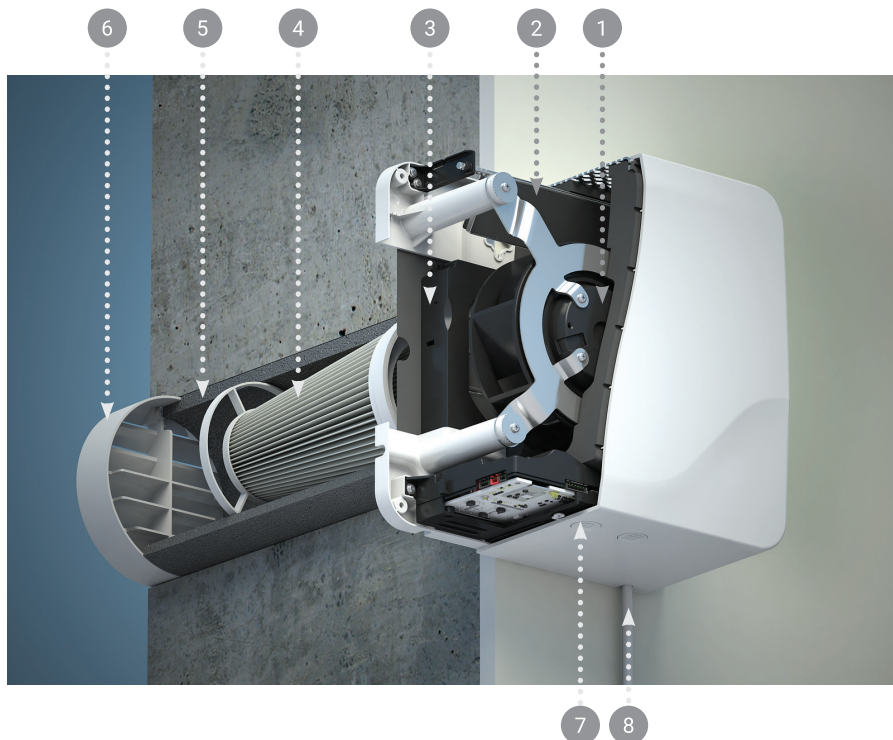

Figure 5.1. System composition:
The device, when installed in accordance with the requirements of Section 6.2 of this User Manual, constitutes a compact ventilation system. The appearance and working parts of the system are shown in Figure 5.1.
The device is to be mounted6 to a wall with a drilled air duct leading to the outside. The air is drawn into the room through the air duct by a fan (Figure 5.1, item 1). The air duct is protected by a heat insulating tube (Figure 5.1, item 5), and the downward slope of the channel (angled towards the street) prevents rainwater from getting into the device. The Tion outflow air grid (Figure 5.1, item 6) is installed on the air duct from the exterior.
A high-efficiency channel filter of E11 class7 according to Russian state standard GOST R EN 1822-1-2010 (Figure 5.1, item 4) is installed in the air duct. The air passing through the filter is cleansed from the finest dust particles as well as allergens, bacteria, viruses and mold spores.
The flap (Figure 5.1, item 2) is located under the air outlet grid. It protects from air ingress into the room, if the device is either turned off or operating in the "Standby" mode (Section 5.3.4).
If necessary, the inlet air can be heated8 up by the heater unit (Figure 5.1, item 3).
The device is operated via the control buttons on the device (Figure 5.1, item 7) or via the Tion Remote mobile application (hereinafter referred to as the application; Section 5.4).